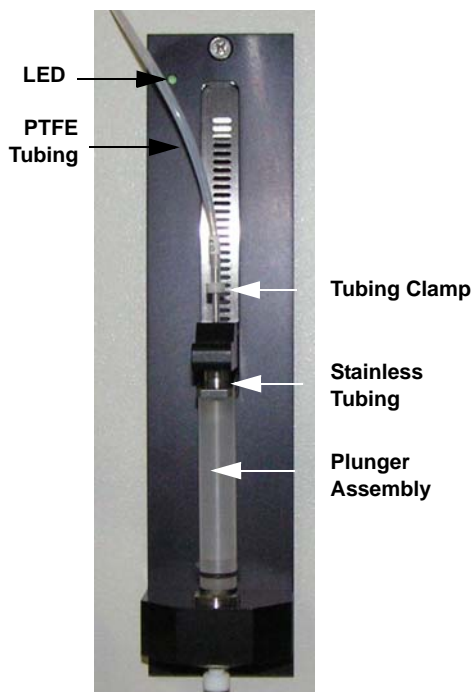

Figure 5-8. Example Tubing Clamp Movement
2. Slide the tubing clamp up so that it is no longer over the stainless steel tubing (see Figure 5-8).
5. Unscrew the plunger assembly (see Figure 5-8) and pull it down to remove it from the cartridge holder.